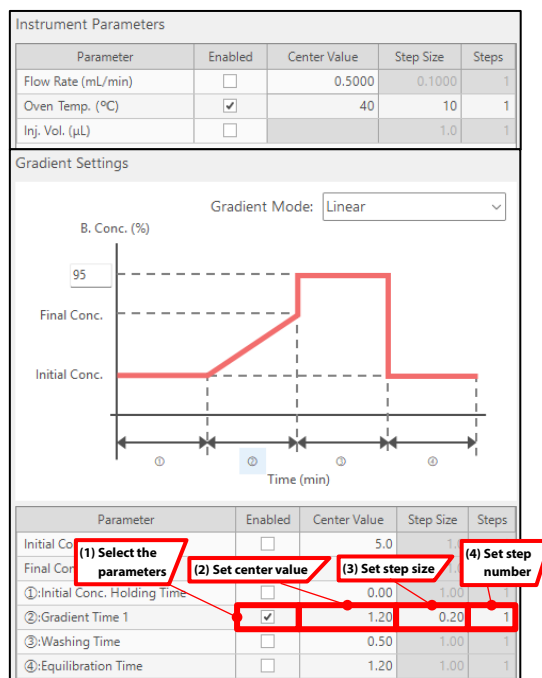

Fig. 4 Analysis Schedule Creation Screen
LabSolutions MD can automatically generate analysis schedules while avoiding human error based on comprehensive combinations of user-defined parameters (Steps (1)–(4) in Fig. 4). This enables anyone to perform separation optimization easily and quickly. For example, when varying the gradient time (red box in Fig. 4), an entered center value of 1.2 min is adjusted by one step above and below the center at 0.2-min increments, resulting in automatically generated schedules of 1.0, 1.2, and 1.4 min. In this study, a total of 18 analytical conditions (2 × 3 × 3) were automatically generated by combining two initial concentrations (5% and 10%), three gradient times (1.0, 1.2, and 1.4 min), and three column oven temperatures (30, 40, and 50 °C). These conditions were then used to comprehensively evaluate the separation.